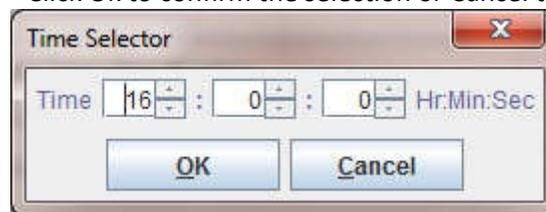

Figure 68 - Time Selector window
- Click the time icon to open the time selector (Figure 68)